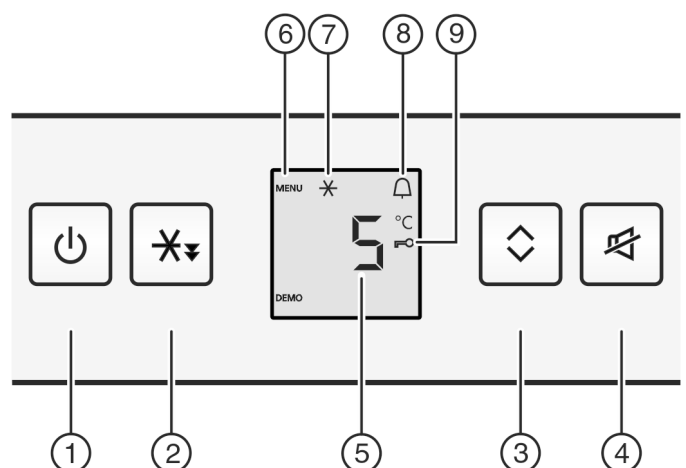

Fig. 2
- ▶ Press the On/Off button Fig. 2 (1).
- ▶ Press the Quick Cool button Fig. 2 (2) for around 5 seconds.
- ▷ The Menu symbol is shown on the display, Fig. 2 (6).
- ▶ Confirm by briefly pressing the Quick Cool button Fig. 2 (2).
- ▷ The child lock symbol, Fig. 2 (9), lights up on the display.
- ▶ Briefly press the On/Off button Fig. 2 (1).
- ▶ Press alarm button Fig. 2 (4).
- ▶ Briefly press the Quick Cool button *Fig. 2 (2)*.
- ▷ The QuickCool *Fig. 2 (7)* symbol lights up on the display.